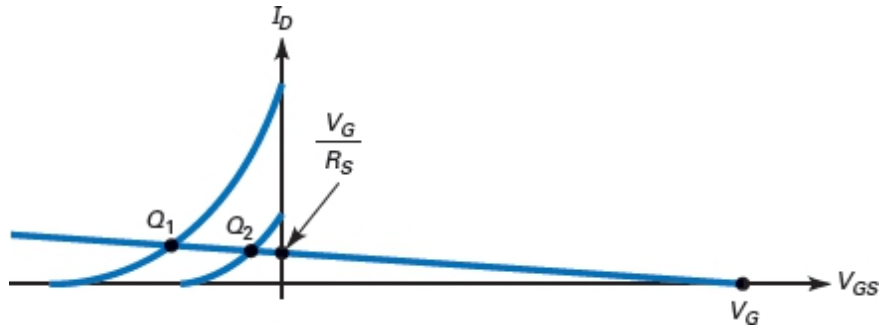

Figure-11 VDB Q point
- Using transconductance curves, as in Figure-11, plot the V_G value on the horizontal, or x-axis, of the graph. This becomes one point on our bias line.